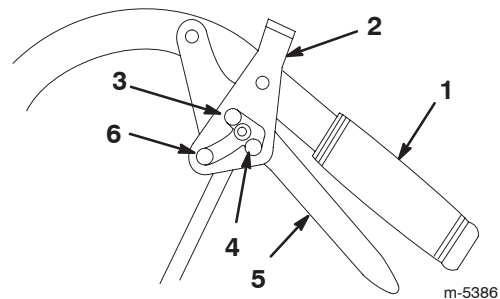

Figure 17
1. Squeeze the drive levers back (Fig. 17).
2. Place your thumbs on the upper part of the locks and move them forward in into the **Park** position (Fig. 17).
2. Place your thumbs on the upper part of the locks and move them rearward until they are in the **Drive** position (Fig. 17).
2. Place your thumbs on the upper part of the locks and move them rearward into the **Neutral Lock** position (Fig. 17).
2. Place your thumbs on the upper part of the locks and move them forward until they are in the **Drive** position (Fig. 17).